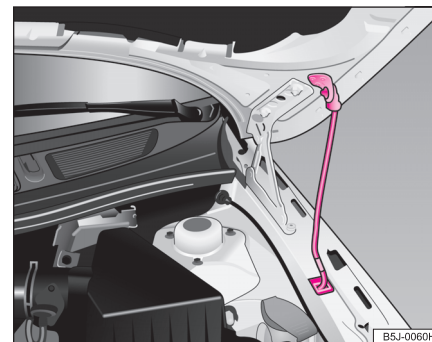

Fig. 143 Securing the bonnet with the bonnet support
- Take the bonnet support out of its holder and set it in the opening designed for it ⇒ page 197, fig. 143.